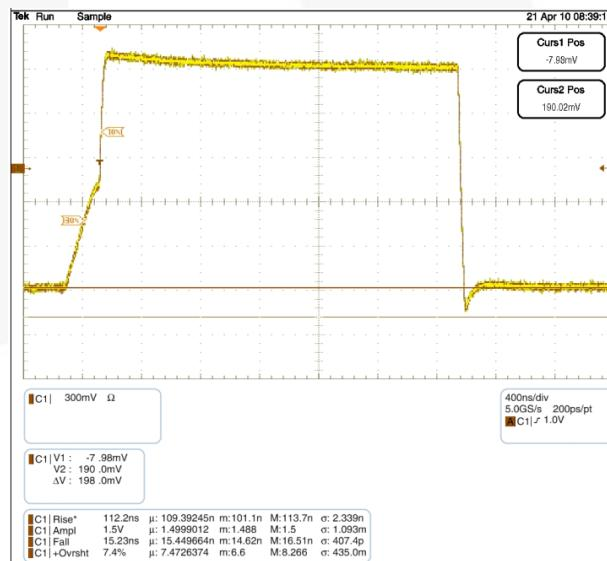

Figure 5. FXMA2102 Waveform C: 600 pF, R_{PU} : 2.2 K
ports until either of the port's $V_{CC}/2$ thresholds are reached. After the RC time constant has reached the $V_{CC}/2$ threshold of either port, the port's edge detector triggers both dynamic drivers to drive their respective ports in the LOW-to-HIGH (LH) direction, accelerating the rising edge. The resulting rise time resembles the scope shot in Figure 5. Effectively, two distinct slew rates appear in rise time. The first slew rate (slower) is the RC time constant of the bus. The second slew rate (much faster) is the dynamic driver accelerating the edge.
The FXMA2102 dynamic drivers have enough current sourcing capability to drive a 400 pF capacitive bus. This is beneficial for instances when an I²C buffer / repeater is required. The I²C specification stipulates a maximum bus capacitance of 400 pF. If an I²C segment exceeds 400 pF, an I²C buffer / repeater is required to split the segment into two segments, each of which is less than 400 pF. Figure 5 is a scope shot of an FXMA2102 driving a lumped load of 600 pF. Notice the (30% - 70%) rise time is only 112 ns ($R_{PU} = 2.2$ K). This is well below the maximum edge rate of 300 ns. Not only does the FXMA2102 drive 400 pF, but it also provides excellent headroom below the I²C specification maximum edge rate of 300 ns.